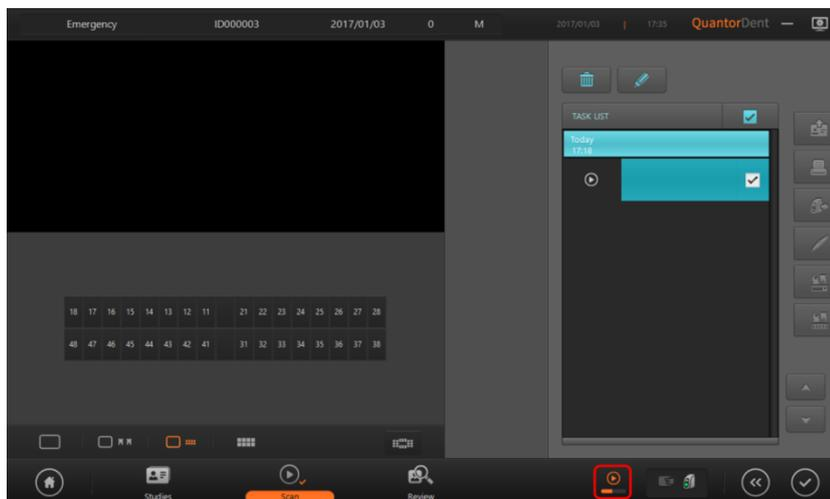
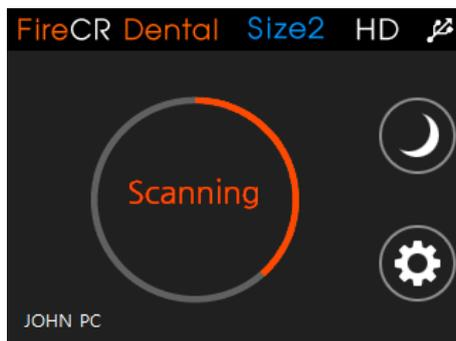

Figure 6.13 Scanning
Figure 6.14 Scanning
7. The image scanning process is displayed on the right side of the navigation bar as Figure 6.13. The Scanner LCD screen also displays the scanning process as shown in Figure 6.14.